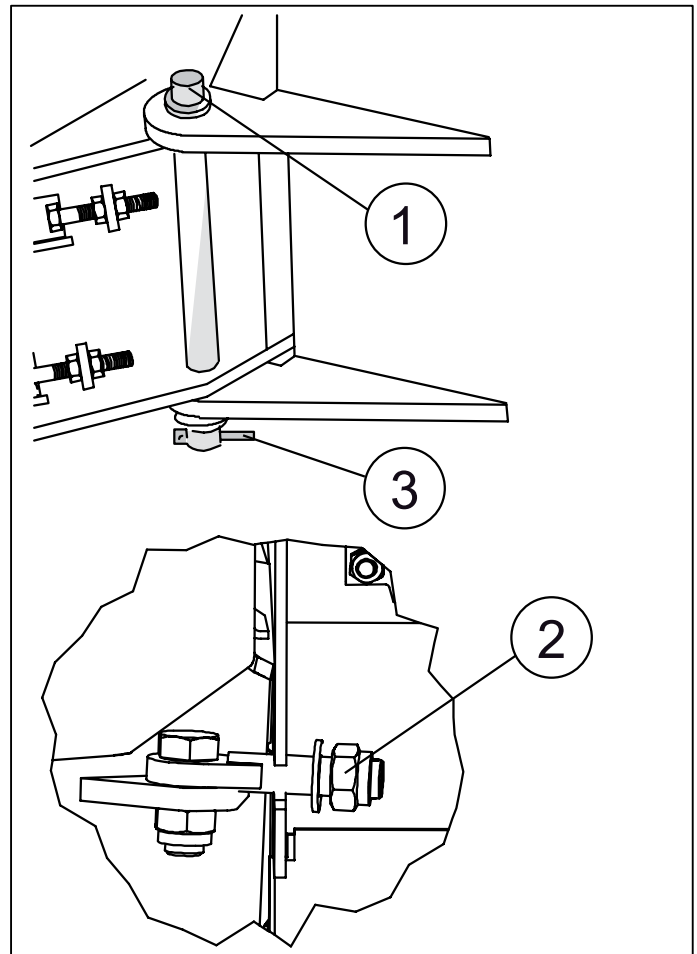

Fig. 4. Mounting the feeder
1. Attach the feeder to the chipper from the left side with the hinge pin (1) and from the right side with bolt (M20) (2). See Fig. 4.